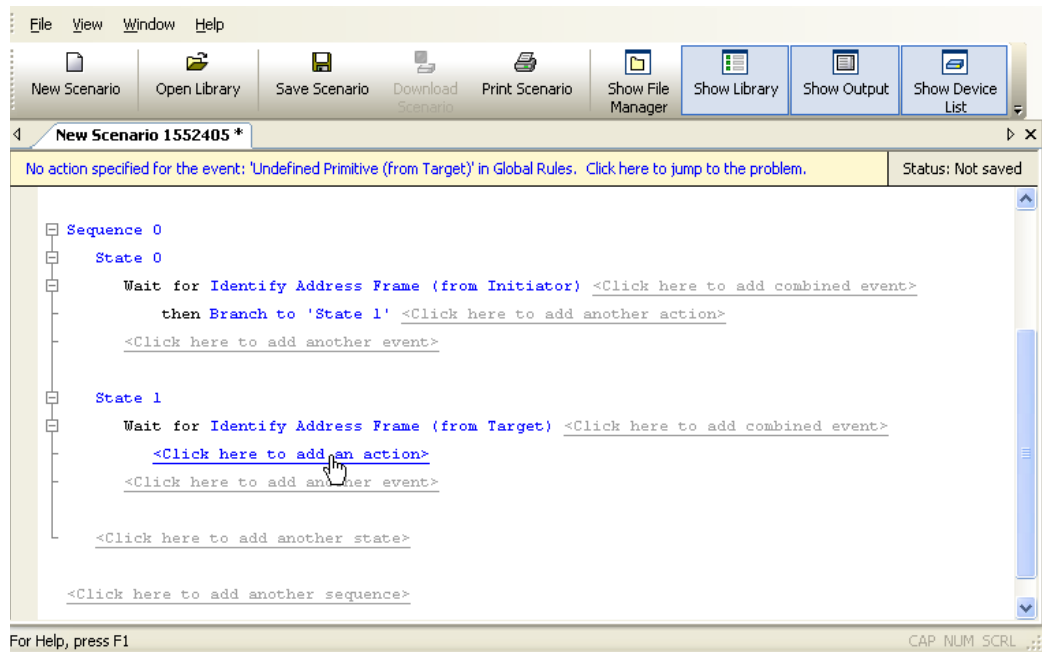

Figure 80 Example 7: Adding an Action to the Second State
Step 13 Click on the prompt to **add an action** for State 1 (Figure 80).